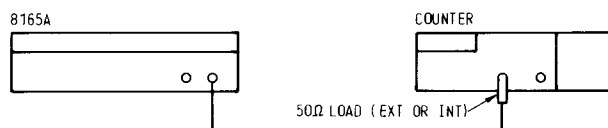

Figure 4—12. Test Setup for Sweep Option 002
1. Connect the equipment as shown in Figure 4—12.